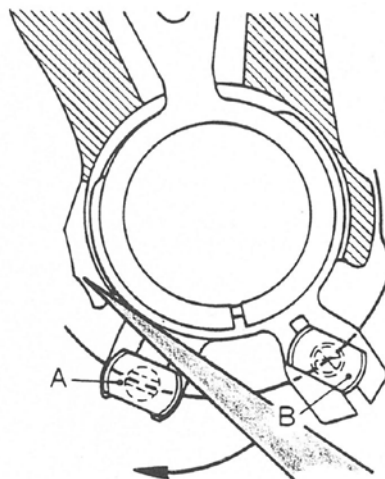

Fig. 1
This operation can be easily done when the balance is on the movement. First open the regulator pins (B) to avoid distorting the hairspring. Then it is possible to take out the stud (A) from the stud support, using tweezers and making a sidewise lever movement with the ends of the tweezers set between the head of the stud and the regulator's exterior diameter (fig. 1).